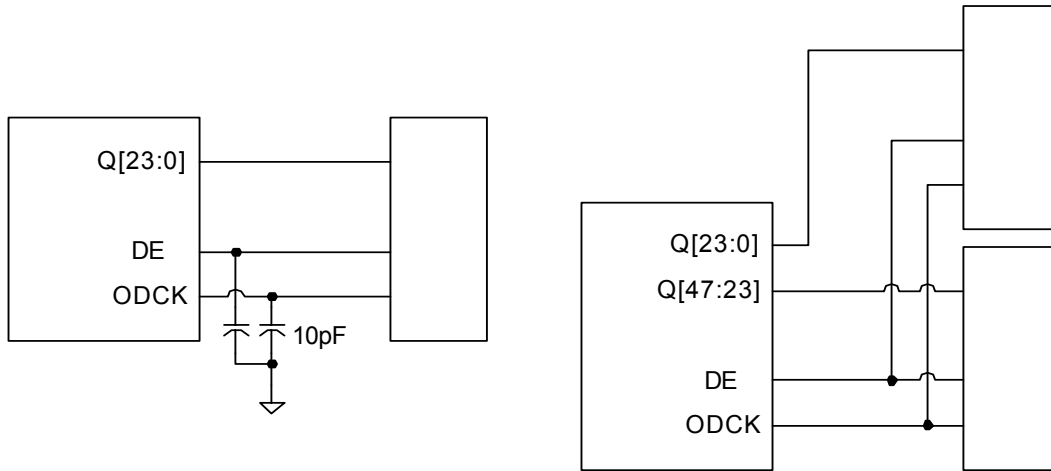

Figure 3. Output Loading in Sil 161B Mode
2. ODCK and DE output pins should be loaded with 10pF when ST=0 and 20pF when ST=1. If layout requires only a point-to-point, one load net, a discrete 10pF capacitor should be added to the net to create these loads. See Figure 3.